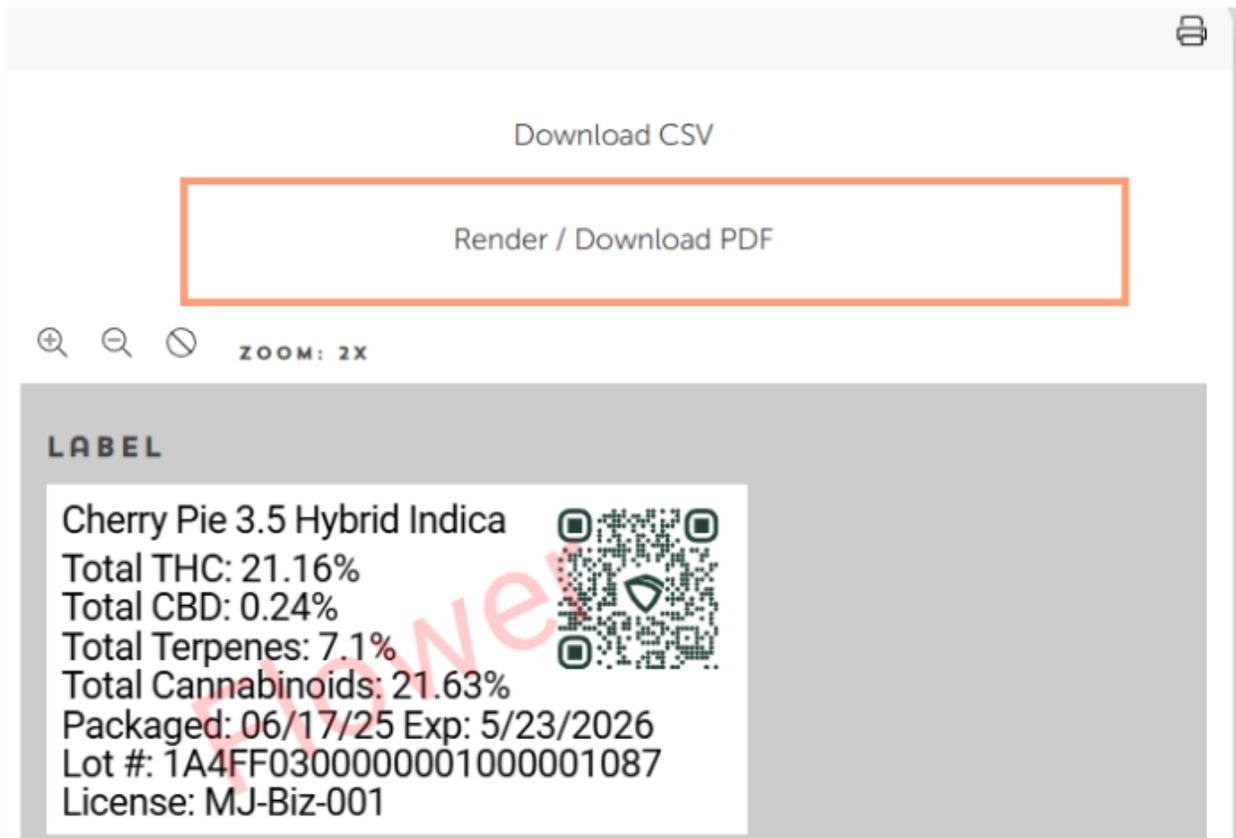

Figure 22: Product Card and Package information preview and Create Labels button
3. Scroll down and click Create Labels – **see Figure 22.**
4. Then click Render/Download PDF to generate your label file above the Preview Label window - **see Figure 22.**